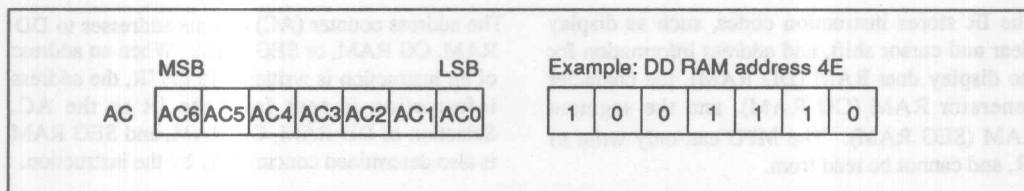

Figure 1 DD RAM Address
The DD RAM address (ADD) is set in the address counter (AC) as a hexadecimal number, as shown in figure 1.